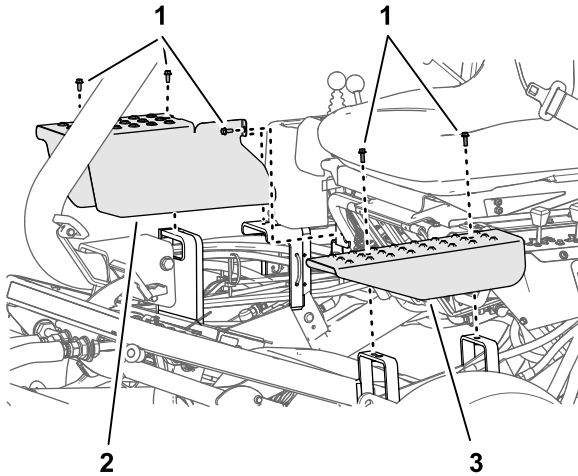

Figure 51
2. Remove the bolts that secure the cover plate of the lift cylinder that you are adjusting from the support brackets of the chassis (Figure 51).